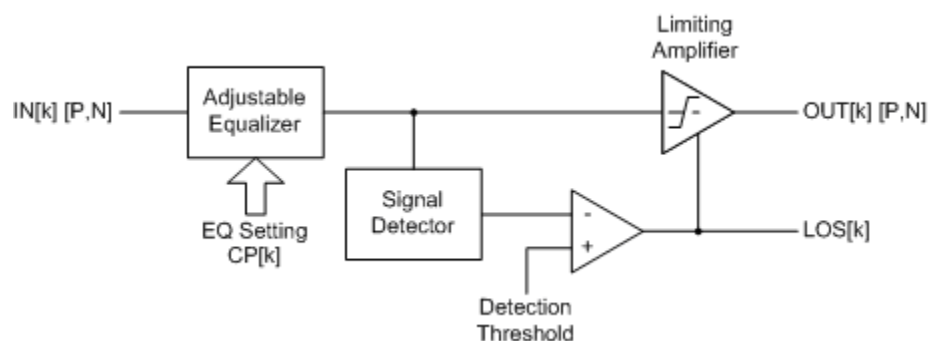

FIGURE 4. FUNCTIONAL DIAGRAM OF A SINGLE CHANNEL WITHIN THE QLx411GRx
The QLx411GRx is an advanced quad lane-extender for high-speed interconnects. A functional diagram of one of the four channels in the QLx411GRx is shown in Figure 4. In addition to a robust equalization filter to compensate for channel loss and restore signal fidelity, the QLx411GRx contains unique integrated features to preserve special signaling protocols typically broken by other equalizers. The signal detect function is used to mute the channel output when the equalized signal falls below the level determined by the Detection Threshold (DT) pin voltage. This function is intended to preserve periods of line silence (“quiescent state” in InfiniBand contexts). Furthermore, the output of the signal detect/DT comparator is used as a loss of signal (LOS) indicator to indicate the absence of a received signal.
As illustrated in Figure 4, the core of each high-speed signal path in the QLx411GRx is a sophisticated equalizer followed by a limiting amplifier. The equalizer compensates for skin loss, dielectric loss, and impedance discontinuities in the transmission channel. Each equalizer is followed by a limiting amplification stage that provides a clean output signal with full amplitude swing and fast rise-fall times for reliable signal decoding in a subsequent receiver.